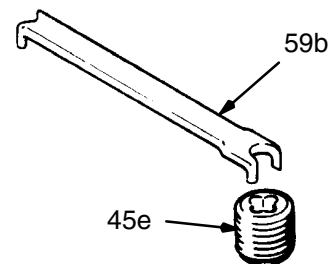

Fig 14
4. Unscrew the packing nut (45e) using the wrench (59b) supplied. See Fig 14.